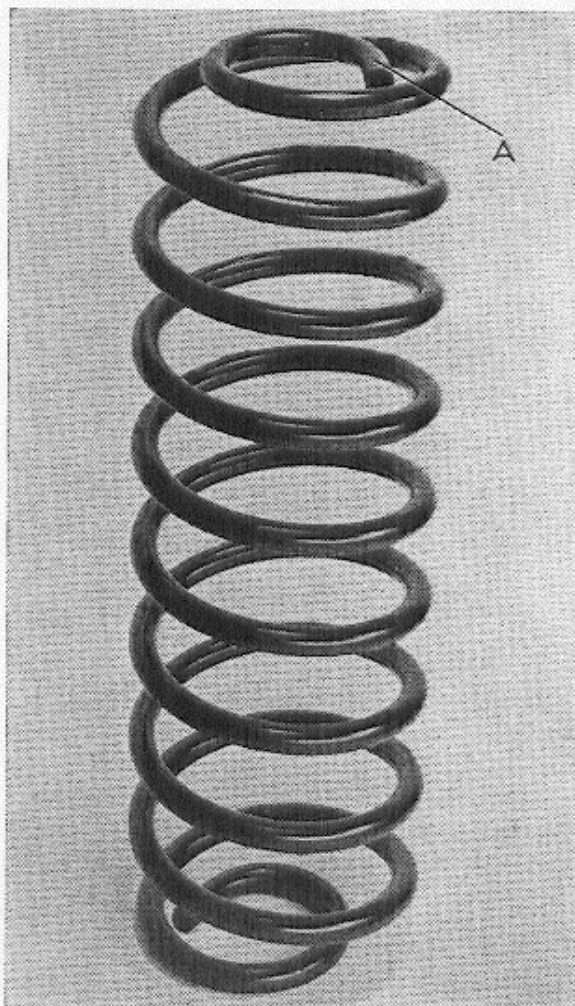

Fig. 4. Rear spring. VOLVO 20257
1. Place the spring and the rubber spacer (4) into position and attach the spring to the body. The straight part of the spring (A Fig. 4) must face diagonally inwards.
2. Raise the rear axle housing with the jack and attach the spring to the support arm. Attach the shock absorber band (7) to the rear axle support arm.
3. Connect the shock absorber (5) to the rear axle housing.